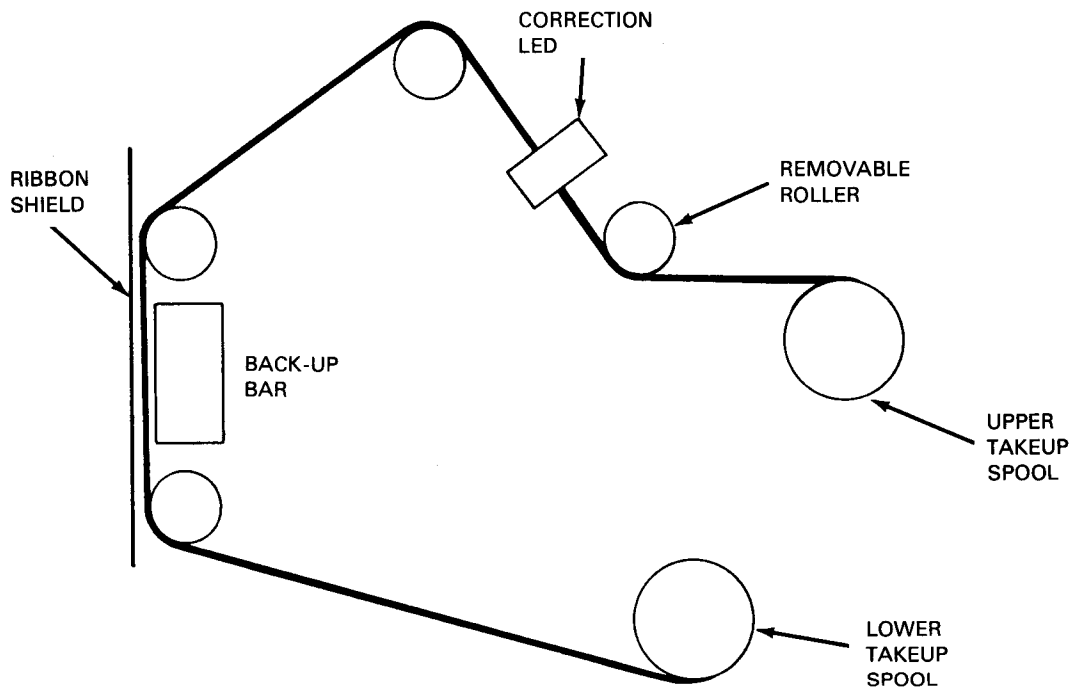

Figure 4-12. Printer Ribbon Threading Path
7. Install new ribbon on lower and upper takeup spools in the reverse manner that old ribbon was removed. Follow ribbon threading path shown in Figure 4-12.